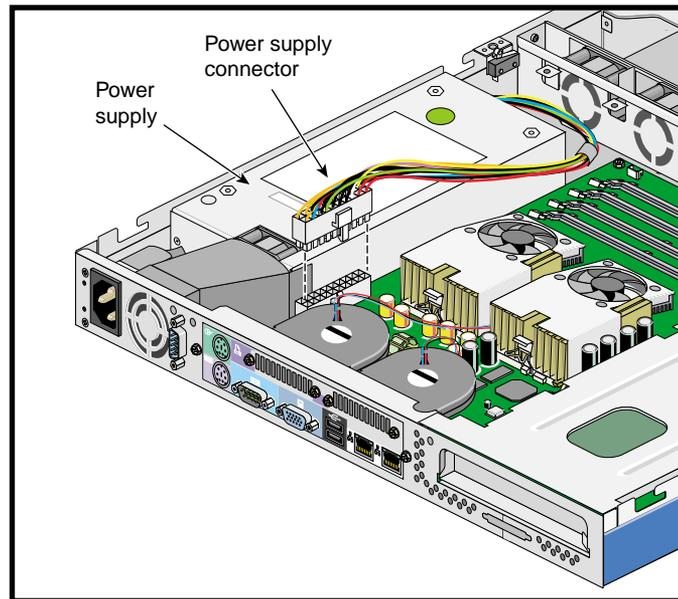

Figure 2-40 Location of the System Board Power Supply Connector
3. Disconnect the power supply cable from the system board. See Figure 2-40 for the location of the system board power supply connector.
6. Connect the power supply cable to the system board. See Figure 2-40 on page 71 for the location of the system board power supply connector.